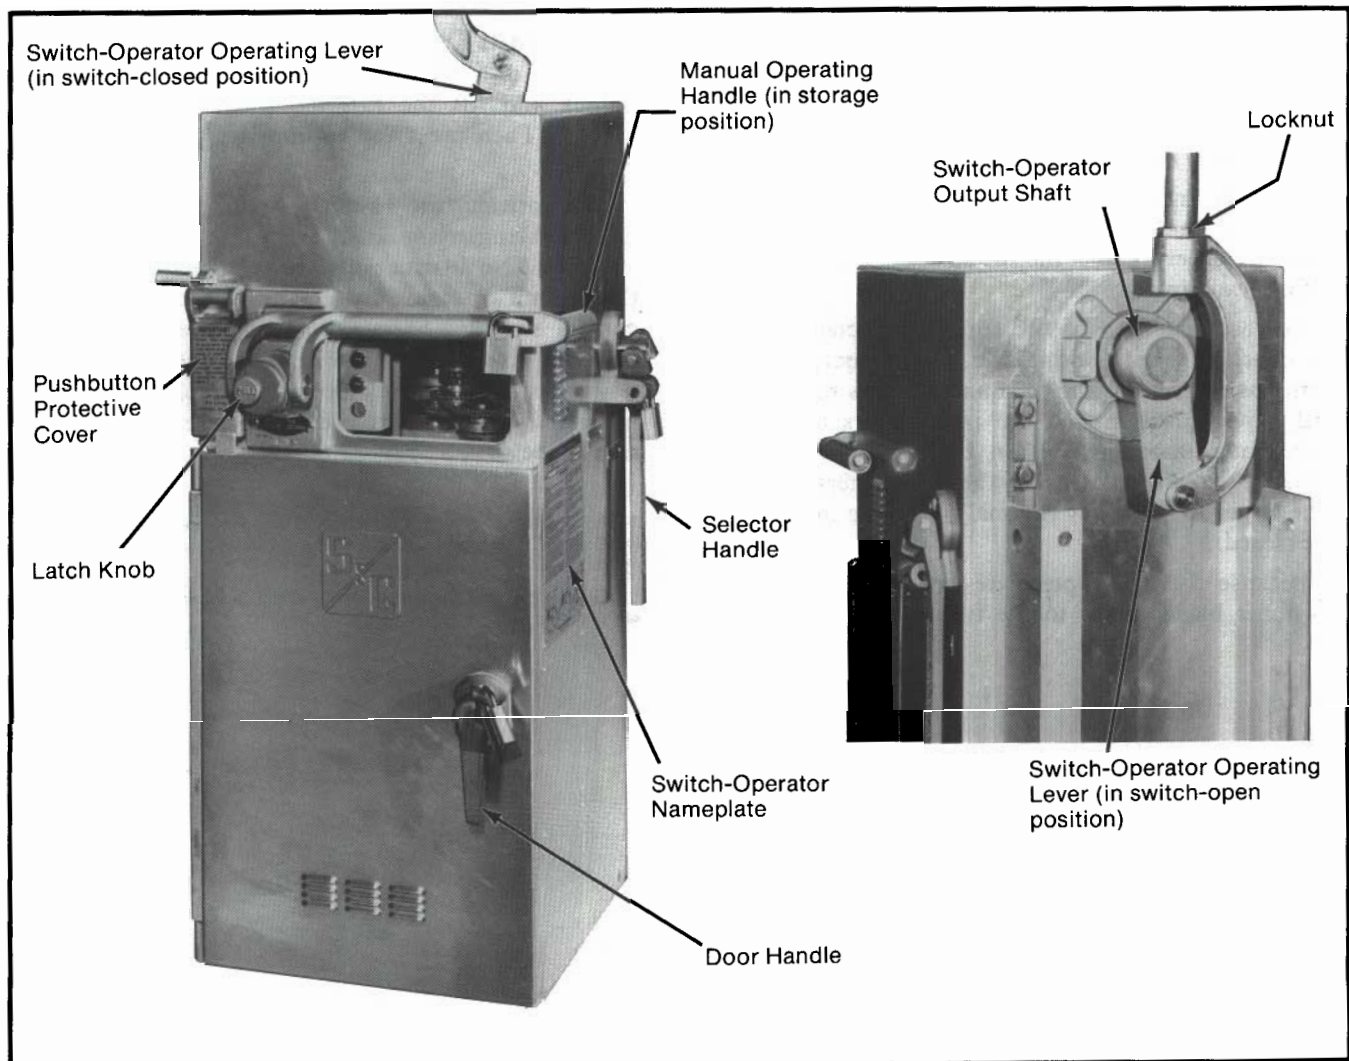

Figure 1. Exterior views of switch operator.
- The operating lever, at the rear of the switch operator, Figure 1, is in the "Up" position for a Circuit-Switcher "Closed" position. Conversely, the operating lever is in the "Down" position for a Circuit-Switcher "Open" position.
To open or close the Circuit-Switcher manually, pull the latch knob on the hub of the manual operating handle and pivot the handle forward slightly from its storage position. Release the latch knob while continuing to pivot the handle forward to lock it into the cranking position. See Figures 1 and 3. (As the handle